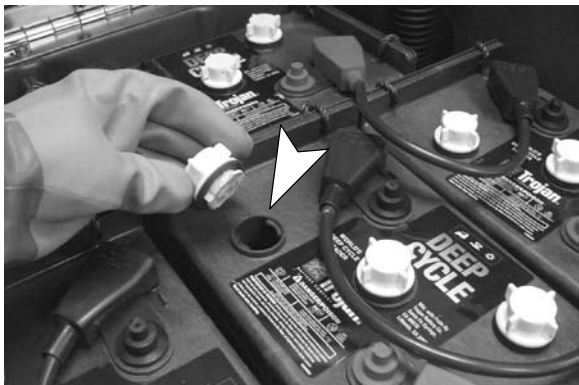

FIG. 27
- Before charging the batteries, check the electrolyte level in each battery cell (Figure 27).